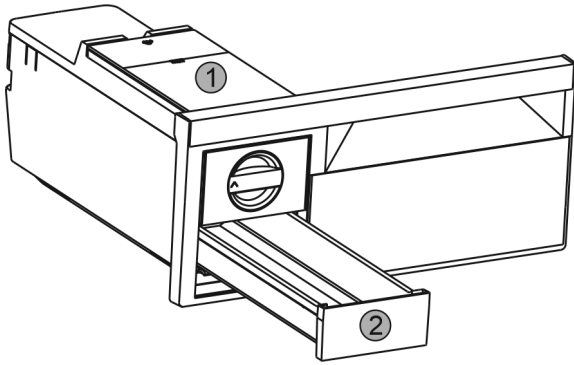

Fig. 56
- Take out the water tank Fig. 56 (1) and ice cube drawer Fig. 56 (2).